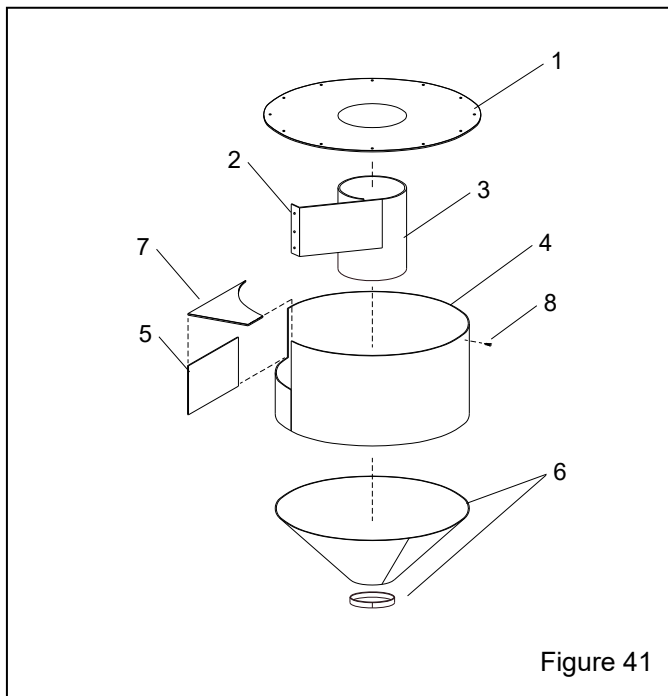

Figure 41
**Reclaimer Liners, 600 cfm only – Figure 41**